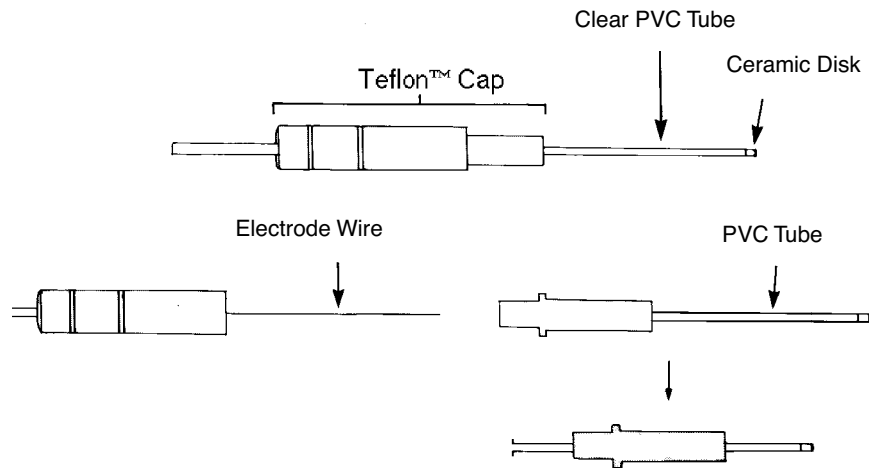

Figure 3-4: Reference Electrode
- 6) Hold the two portions of the white plastic electrode cap, and gently pull them apart (Figure 3-4). The clear PVC tube, with a ceramic end, cannot be pulled directly from the assembled electrode.
- 12) Gently draw the PVC tube back into its plastic cap (Figure 3-4).